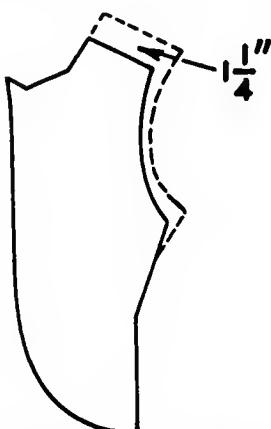

Fig. 83. For a higher, fuller bust.
f. For a higher, fuller bust, add  $1\frac{1}{4}$  in. at the shoulder and at the armhole for a larger dart and at the bottom of the armhole (Fig. 83).